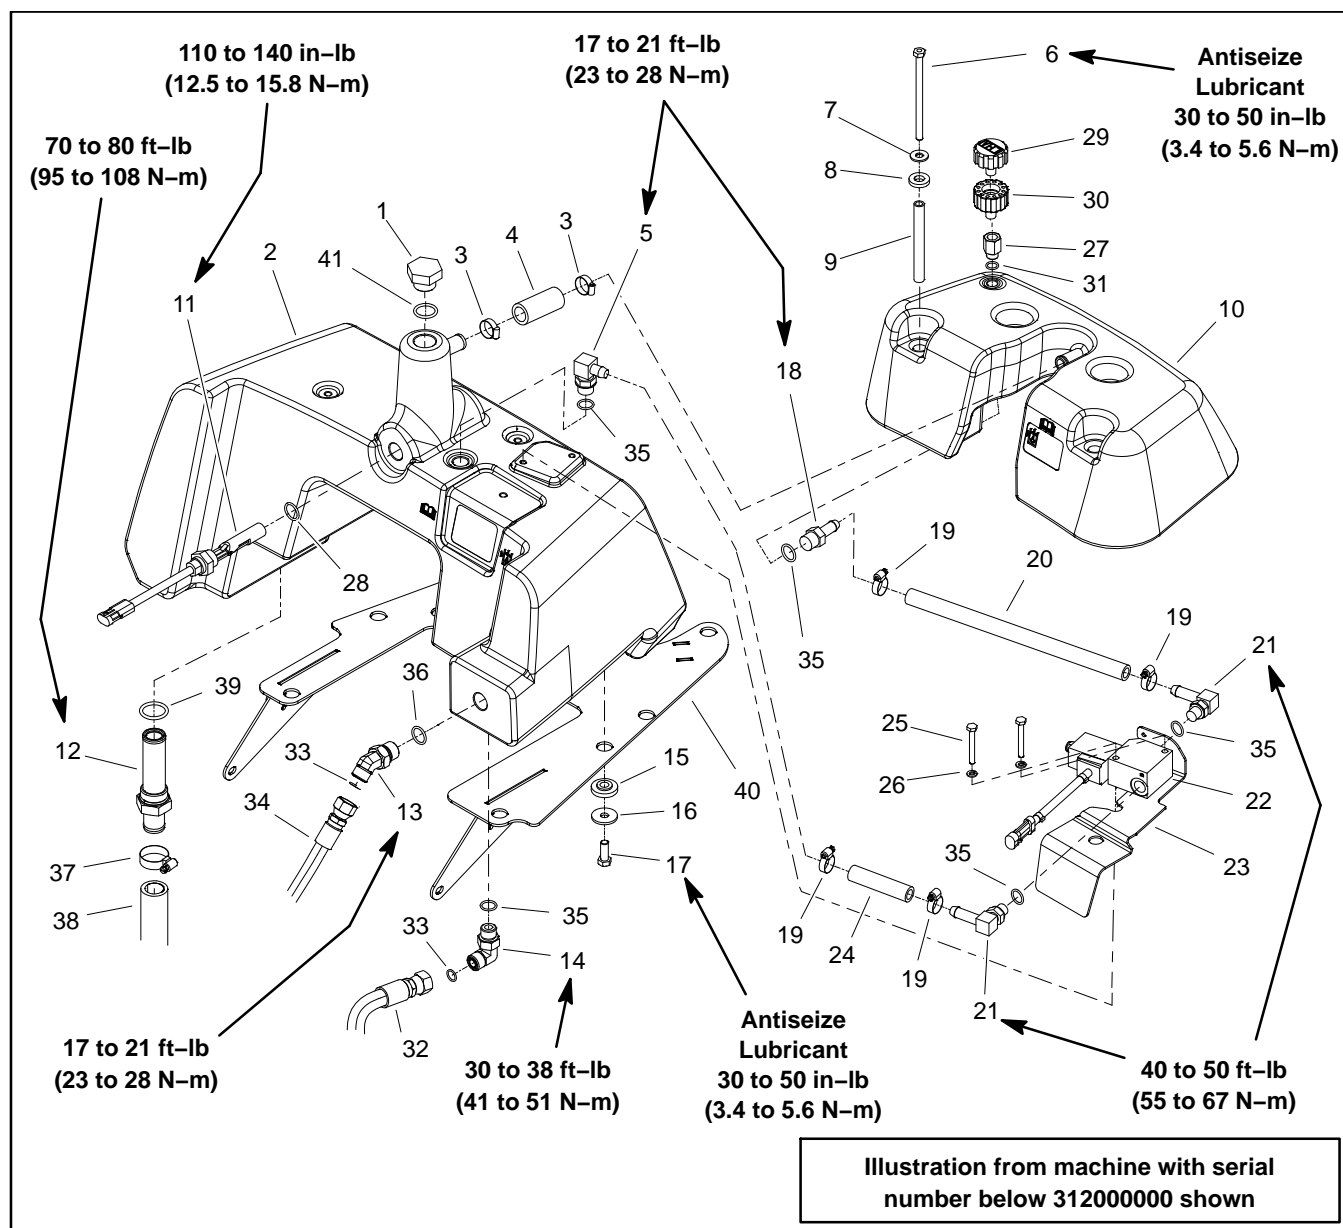

Figure 78
## Removing Hydraulic Reservoir (Fig. 78)
## Installing Hydraulic Reservoir (Fig. 78)
1. Lubricate and place new O-rings onto all removed fittings. Install fittings into reservoir openings. Use marks made during the removal process to correctly orientate fittings. Refer to Figure 78 for reservoir fitting installation torque specifications.